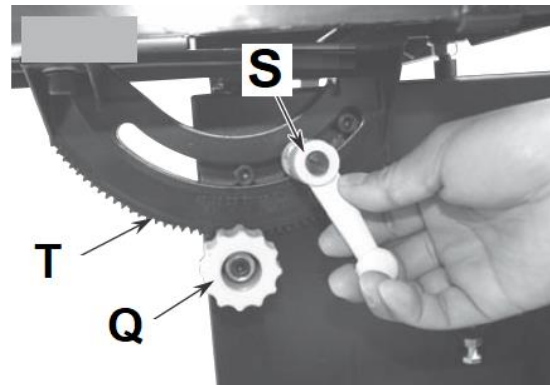

Fig 7
- Set pointer at 0° to match the scale (T, Fig 7).